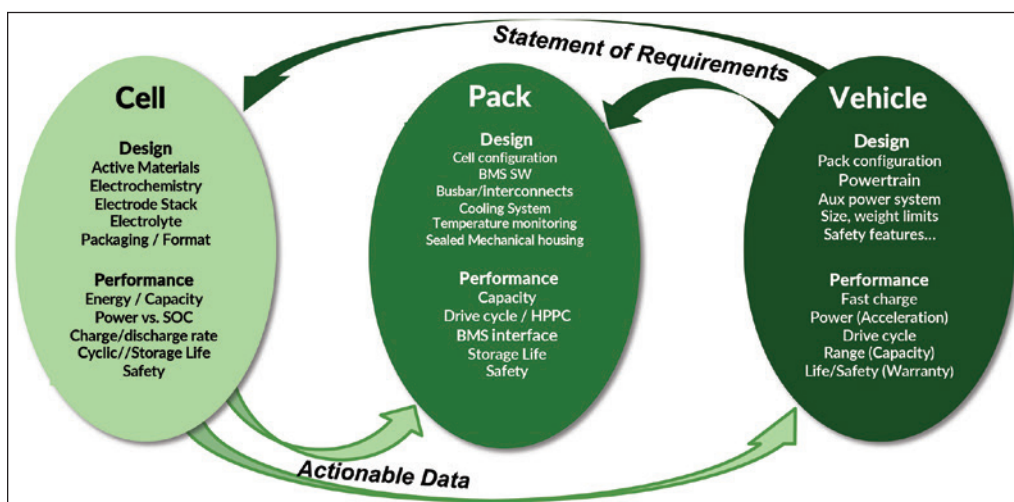

Figure 1: EV design definition and optimization flow
Note the criticality that cell testing plays in the hierarchy shown in Figure 1. The output data provides actionable information on upstream system performance. Individual cell storage and cycling aging behavior will define the corresponding module life performance, affecting the projected vehicle performance. For example, an early cell performance issue caught in the concept validation (CV) phase can drive changes in the pack, the battery management system (BMS), or even vehicle performance or warranty targets. This build-test-optimize flow is a